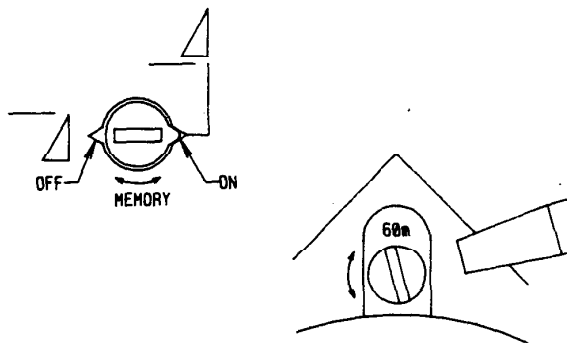

FIG. 9 MEMORY & TIME RANGE
- A. Use a small screwdriver and rotate the time range adjustment screw to the desired range (either 60M or 12HR) as shown in FIG. 9.